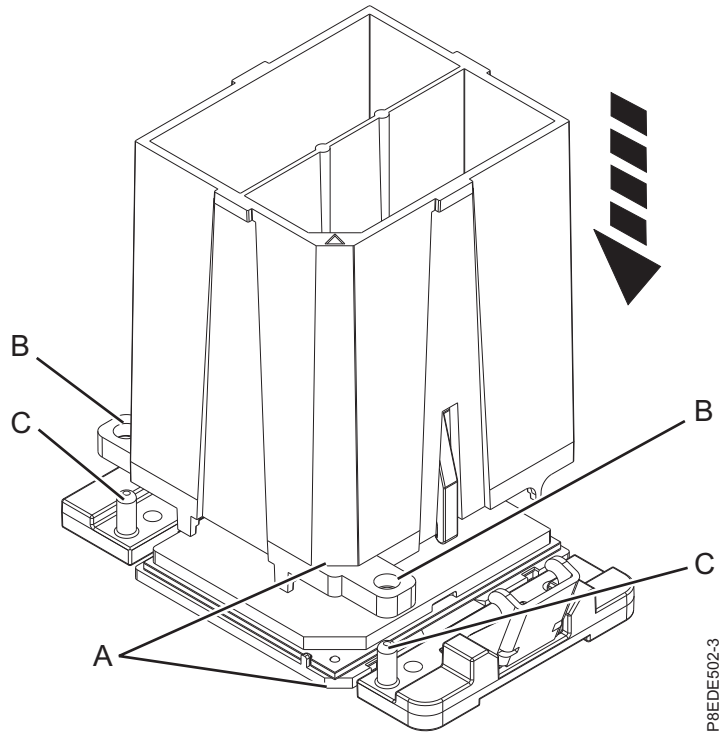

Figure 6. Lowering the removal tool onto the system processor module
- a. Using the supplied removal tool, align the beveled corner **(A)** of the tool over the beveled corner of the system processor module as shown in Figure 6 on page 8.